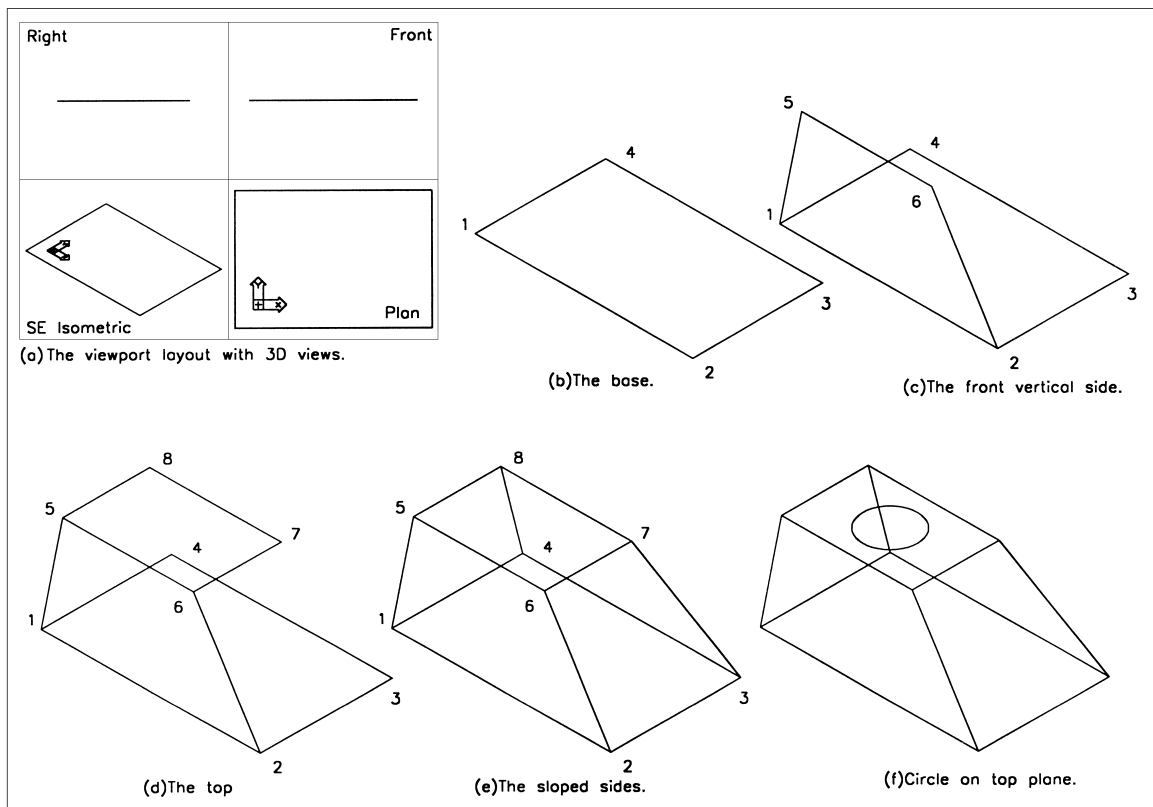

Figure 9.5 Construction of model for viewport example 2.
- 8 The screen layout at this stage is similar to Fig. 9.5(a)
1. origin: midpoint of line 23 – Fig. 9.5(e)